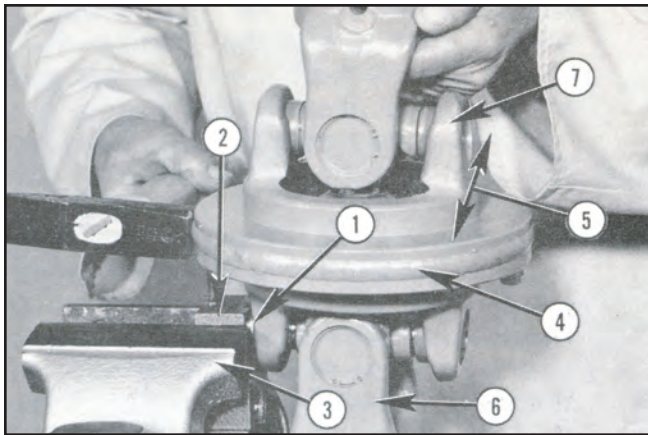

FIGURE 97
5. The partially extracted needle bushing (1) can be removed with a Walterscheid tool SW23 (2). This tool inserts between vice jaws (3) and radially clamps the partially extracted bushing. See Figure 97.
6. Carefully rock flange assembly (4) in direction of arrows (5) until bushing is fully out. Repeat this for other side of flange yoke and separate it from center cross remaining in undisturbed outer yoke (6).